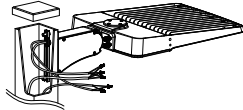

Figure 2-2
- Step2: Fix the fixture on the pole after passing the input wire of the fixture through the pole and then connect the input wires to the mains properly, Figure 2-2;